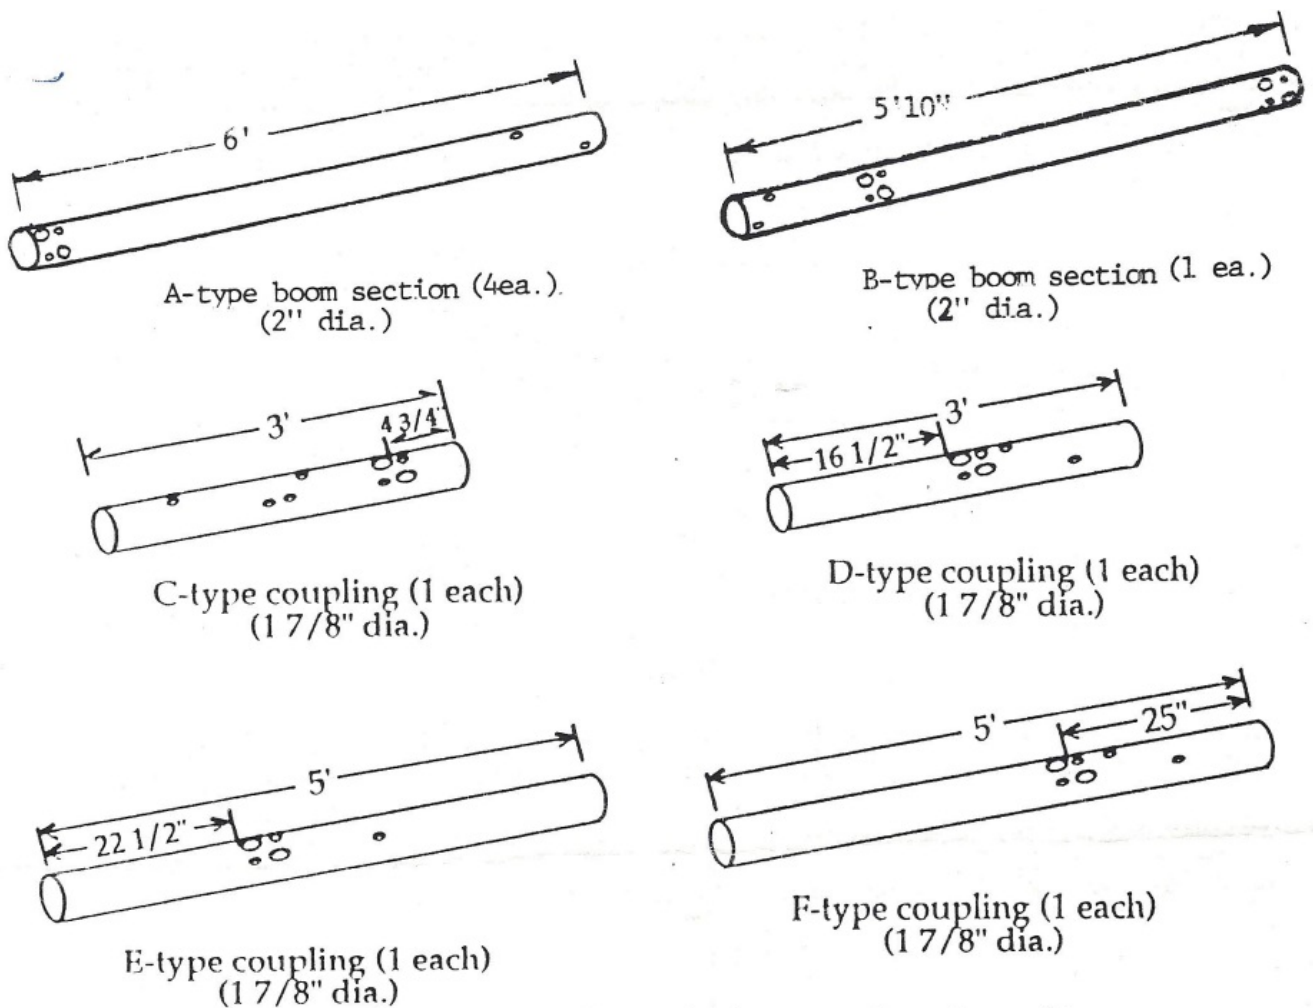

figure 1- boom sections & couplings
- Note: Make certain to seal the coax against moisture where the braid stops, as shown in fig. 1. A silicone-type sealer works fine, as long as the coax is not moved around too much after the sealer is applied. It is therefore best to apply the sealer after any matching adjustments (described in the next step) are performed.